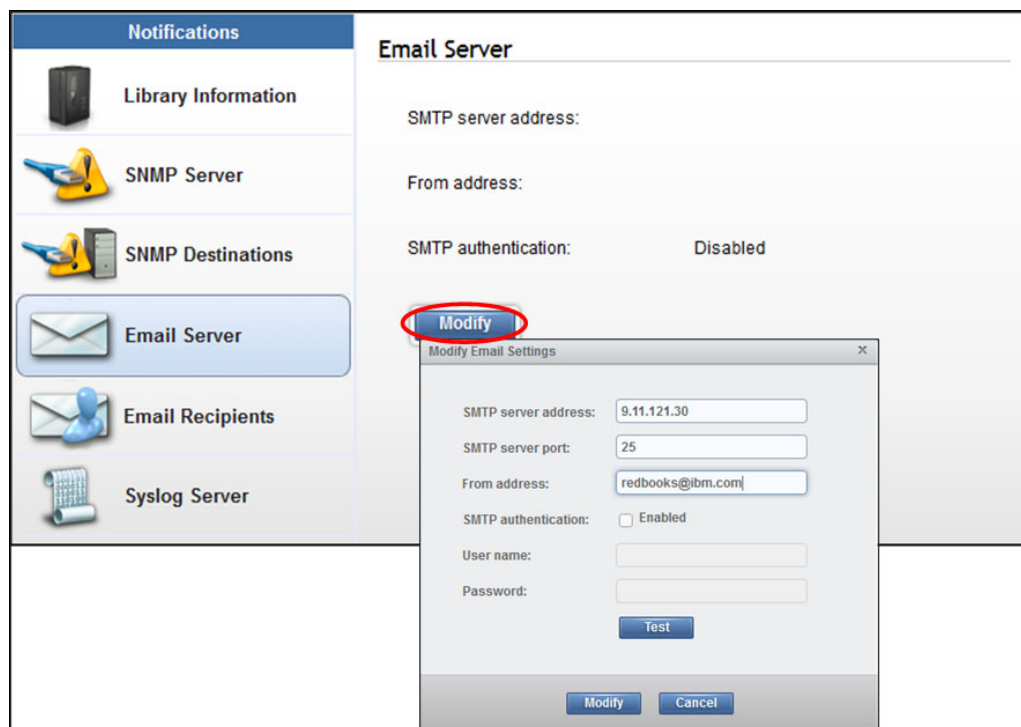

Figure 4-30 Email Server notifications page
2. Enable **SMTP authentication**, as shown in Figure 4-30.